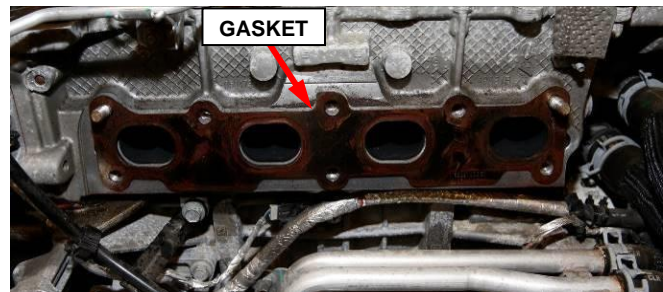

Figure 14 – Maniverter Gasket
24. Remove and **DISCARD** the exhaust manifold gasket (Figure 14).